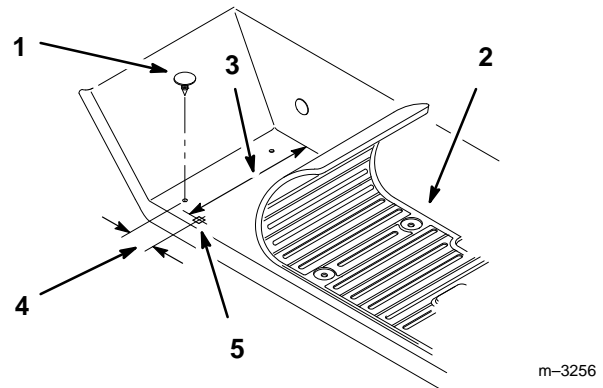

Figure 2
1. Push up on plastic rivets at rear of right foot pad and remove rivets. Lay the pad toward the front to access the foot rest for drilling a hole (Fig. 2).
2. Measure and mark location, center punch and drill a 5/16" hole through right foot rest (Fig. 2).
3. Using a file, square off the hole to accept the head of a 5/16" carriage bolt.(Fig. 2).